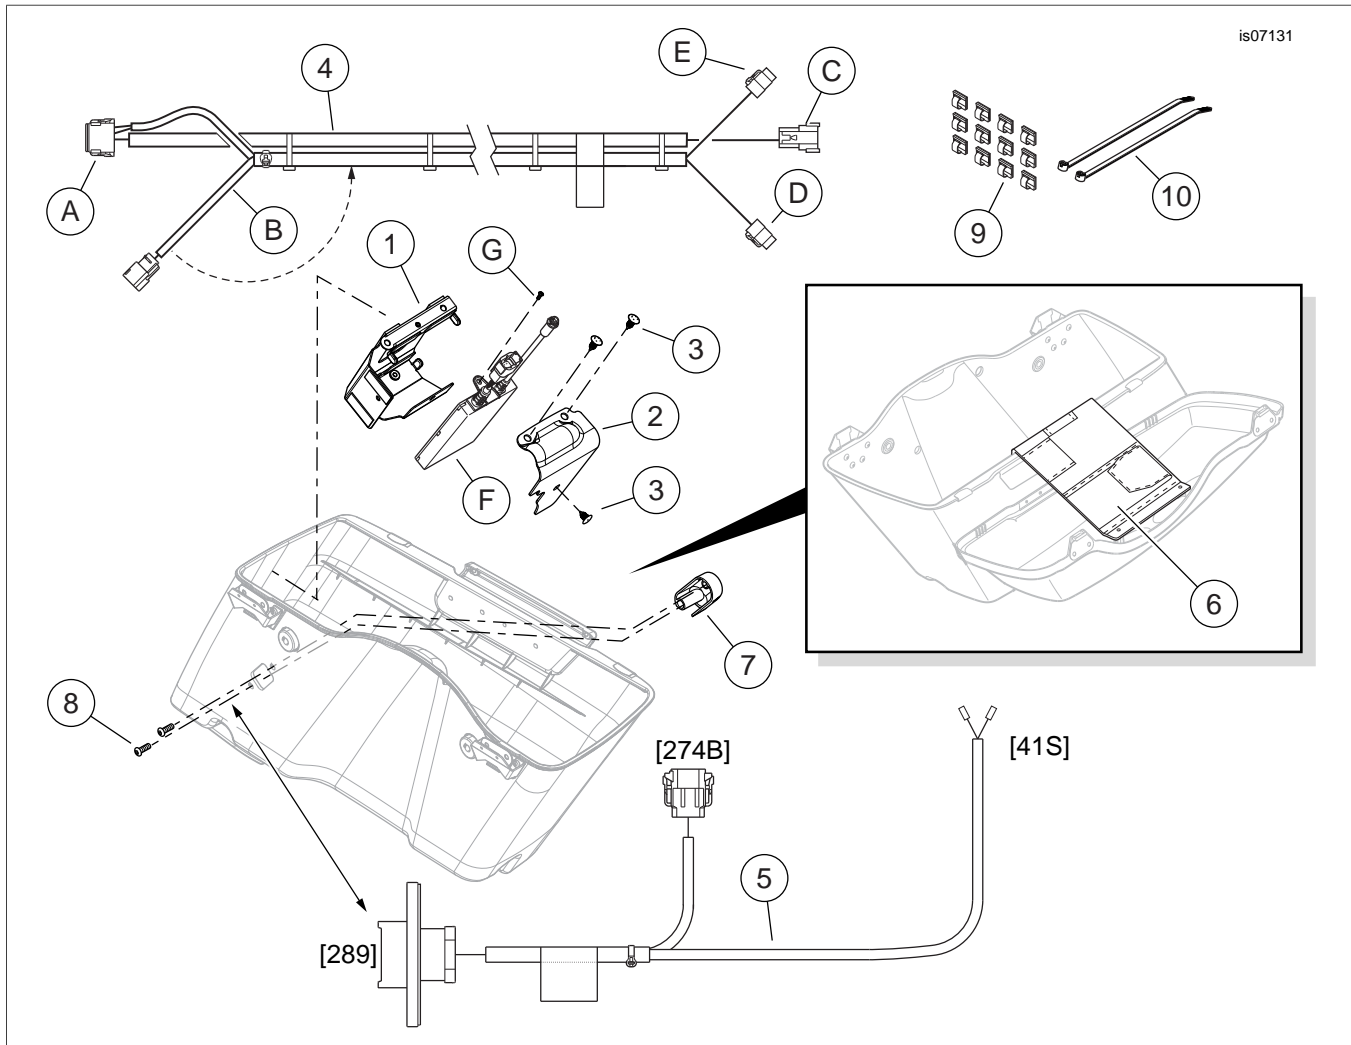

Figure 2. Service Parts, Saddlebag iPod Module Relocation Kit
See Figure 2 and Table 1.
1. See Figure 2. Get the iPod relocation harness (4) from the kit.
2. Position the twelve-way connector (A) to the left rear frame fender support arm, near the rear of the saddlebag.
3. Fold the harness branch (B) and six-way connector back, and use a cable strap (10) from the kit to tie it to the main body of the iPod relocation harness under the seat.
6. See Figure 2. Plug the eight-way pin housing (C) from the harness (4) into iPod/NIM harness connector [274B].
7. Figure 2. Get the mounting bracket (1), cover (2) and three push-in clips (3) from the kit.
9. Position the iPod module (F) onto the bracket, with the metal cones on one end fitting firmly into the rubber grommets in the bracket.
10. Fasten the module to the bracket with the screw (G) removed from the radio case earlier. Tighten to 35-45 in-lbs (4.0-5.1 Nm).
11. Get the saddlebag wire harness (5), plug cover (7) and two screws (8) from the kit.